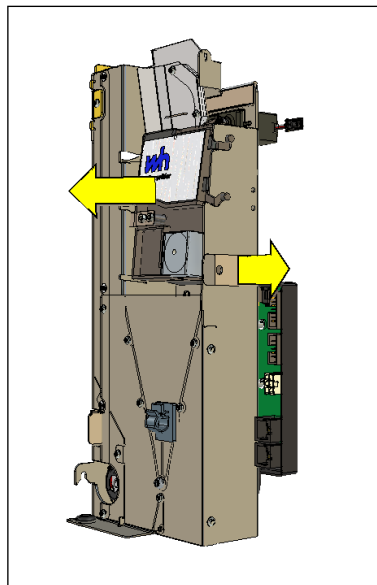

Figure 66. Removing the coin verifier
1. Ensure that there is sufficient free length of the verifier cable (see Figure 66). Loosen more of the cable from the cable clamp if necessary.